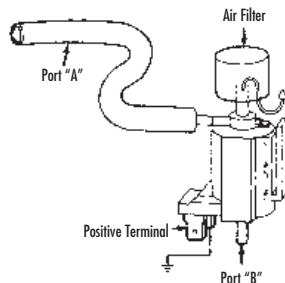

FIGURE 13: TYPICAL VACUUM SOLENOID
1) Disconnect vacuum and electrical connectors from the solenoid. Connect the pump to port "B" and attempt to apply vacuum with pump. Vacuum should be released through port "A" (FIGURE 13).